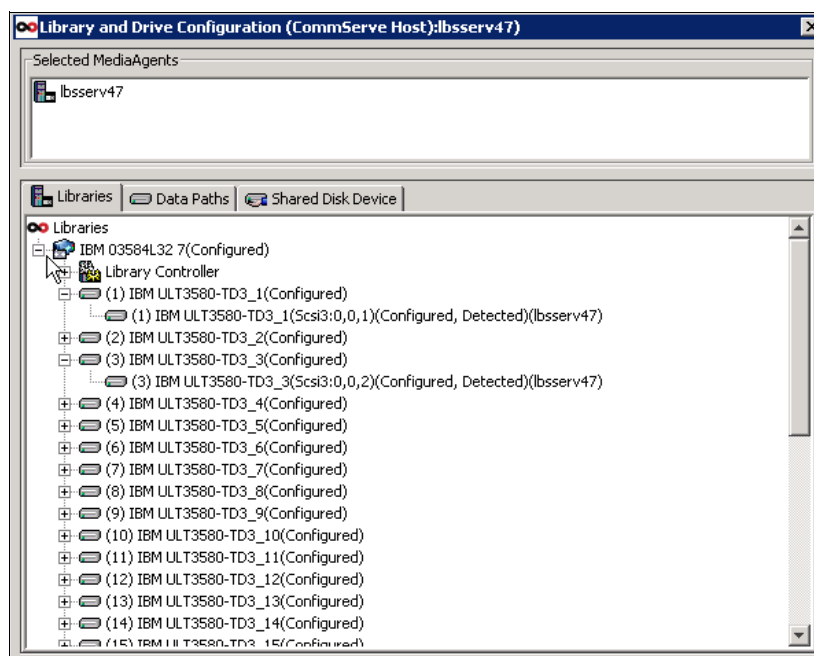

Figure 19-13 Verify the discovered tape drives
14. When prompted, select the **Ultrium V3** type of media for a Discovery Media Option and verify that all the remaining tape drives are correctly detected and configured (Figure 19-13).